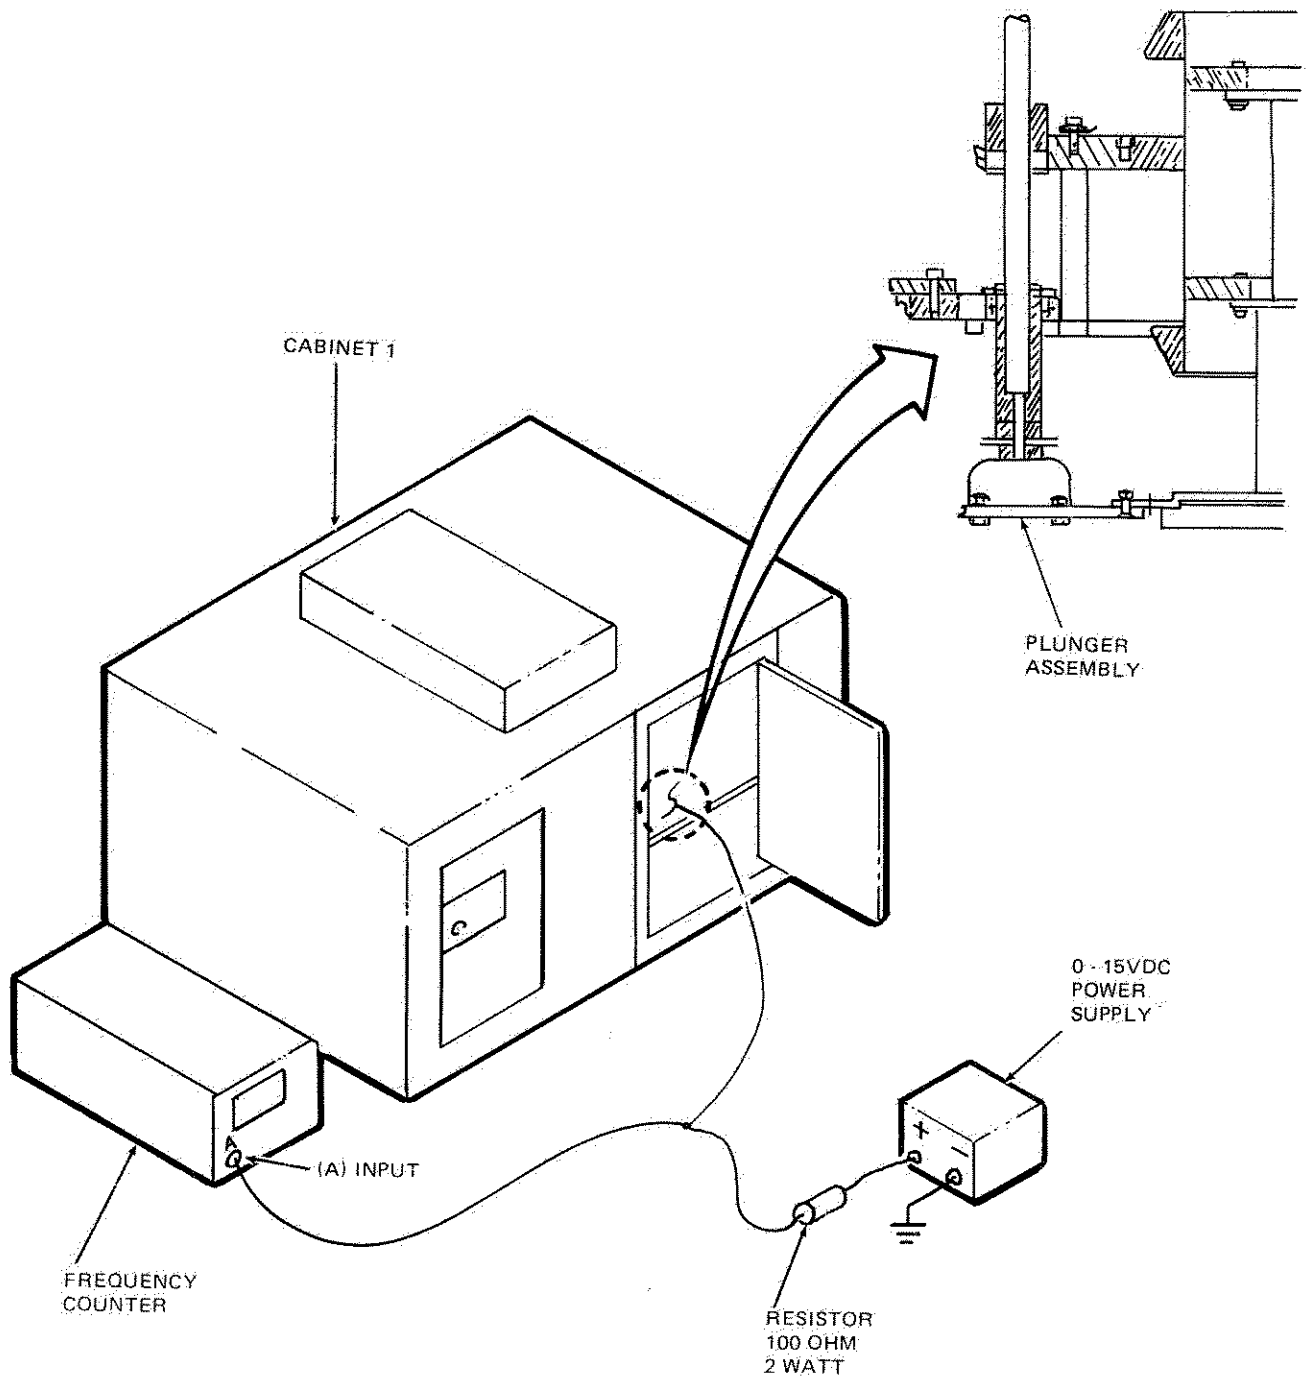

Figure 6-112. Plunger Adjustment Verification
23. Refer to Figure 6-112 to set up test equipment. Connect (A) INPUT of frequency counter to the + terminal of power supply through a 100 ohm, 2 Watt resistor. Clip parallel lead from (A) INPUT to bar support screw of plunger assembly for band under test.
8. Maintain upward pressure on shaft assembly plunger and insert brass gage block (Figure 6-110) between lower ring contact and upper ring contact. Refer to Figure 6-112 for location of ring contacts.
23. Refer to Figure 6-112 to set up test equipment. Connect (A) INPUT of frequency counter to the positive terminal of power supply through a 100 ohm, 2 Watt resistor. Clip parallel lead from (A) INPUT to bar support screw of plunger assembly for band under test.